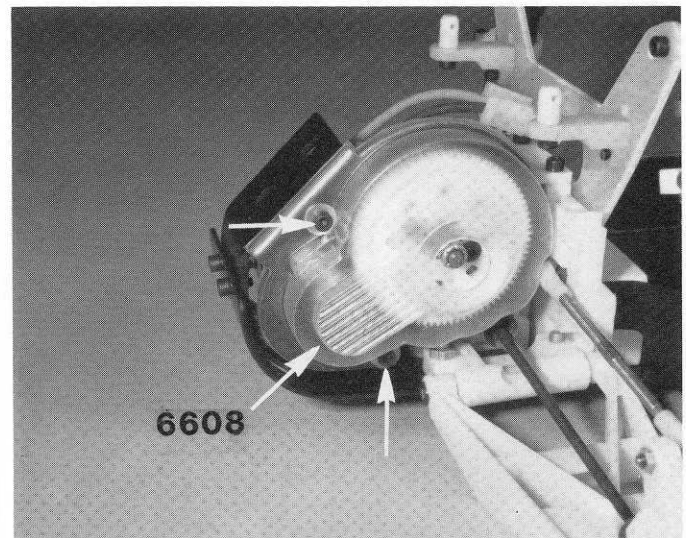

Fig. 142
□ **Figs. 142 & 143** Trim around the outside of the #6608 dust cover, cut out the center button hole and install with two 4-40 x 1/4" SHCS and washers. **CAUTION:** to remove the motor, you must first remove the dust cover. You will then have four screws out that look the same. But if you mix up the dust cover screws with the motor screws, you will strip out the threads. Keep the motor screws with the motor, and the dust cover screws with the dust cover. Also, **DO NOT** try to use aluminum screws to attach the dust cover, because the screws will break off when mounting the dust cover.